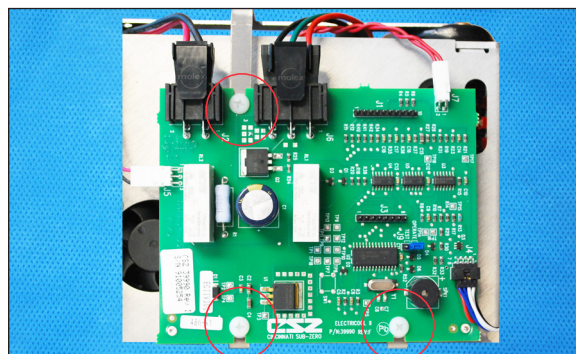

Figure 109 - Step 4 Remove three plastic screws
4. Remove three plastic screws (Figure 109).